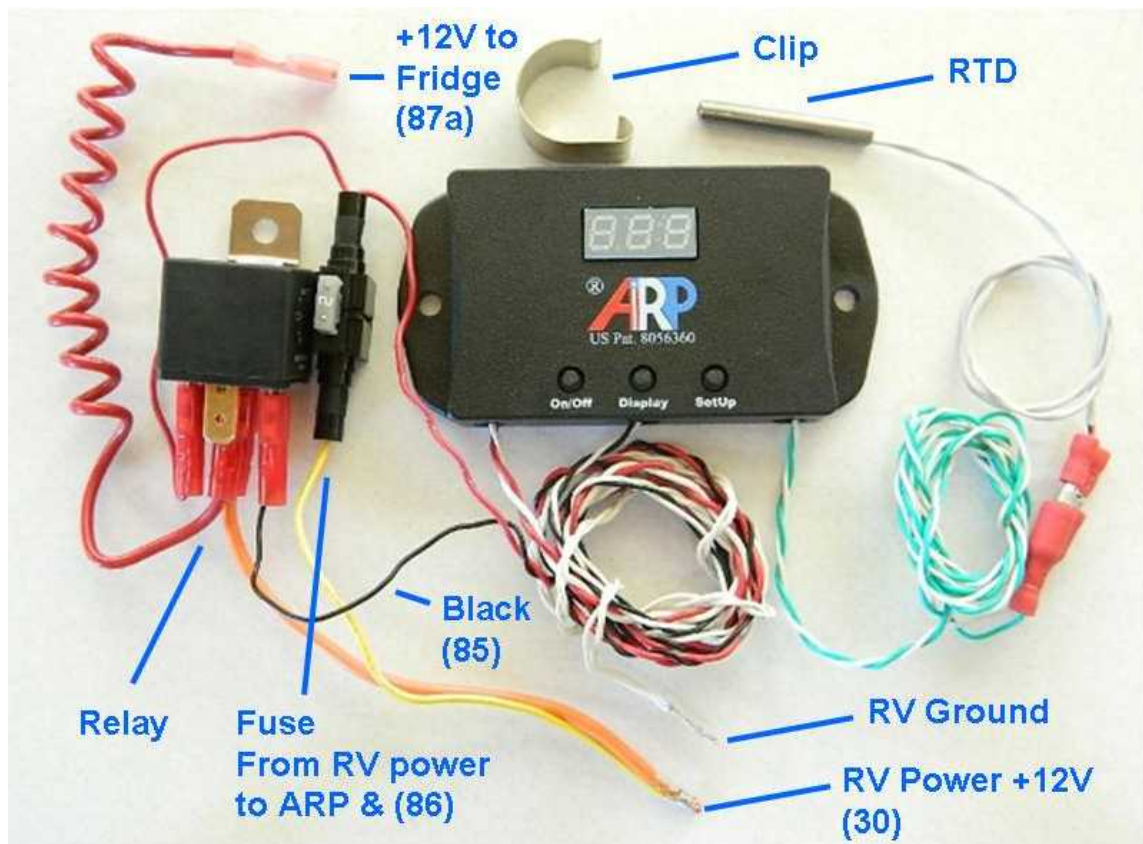
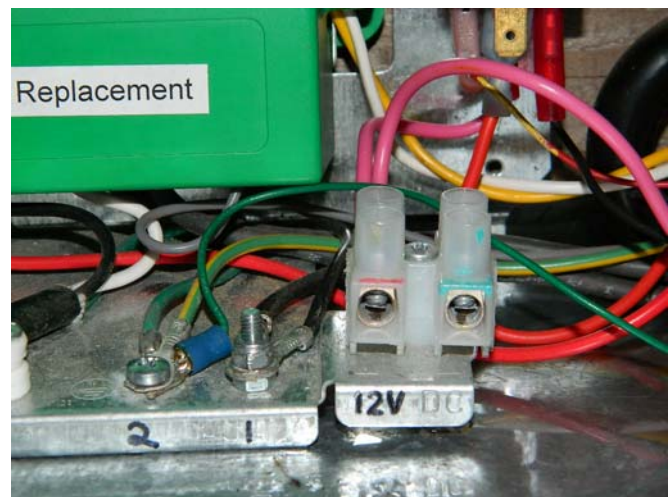

Fig. 1 ARP Control Kit
Fig. 11 Typical Dometic Power Terminals
The ARP is not complicated. The system has the following components seen in Fig. 1.
Fig. 9 shows three 1/4" holes drilled near to the bottom edge of the control housing. This allows any water to drain and the wires to be routed as seen in Fig. 1 or 8 above.
2. Identify the ground location of your refrigerator. By viewing Fig. 11 & 12, the typical power and ground terminals are seen. Connect the 2 white ground wires identified in Fig. 1 to the ground of your system. You can use the ground screw terminal, or another similar ground.
Please note that the relay terminal numbers are identified in Fig. 1 within parenthesis.
Note: The white wire of this pair is not a ground wire. The RTD wires are not polarized; they may be installed in either position on the sensor, please see Fig. 1.